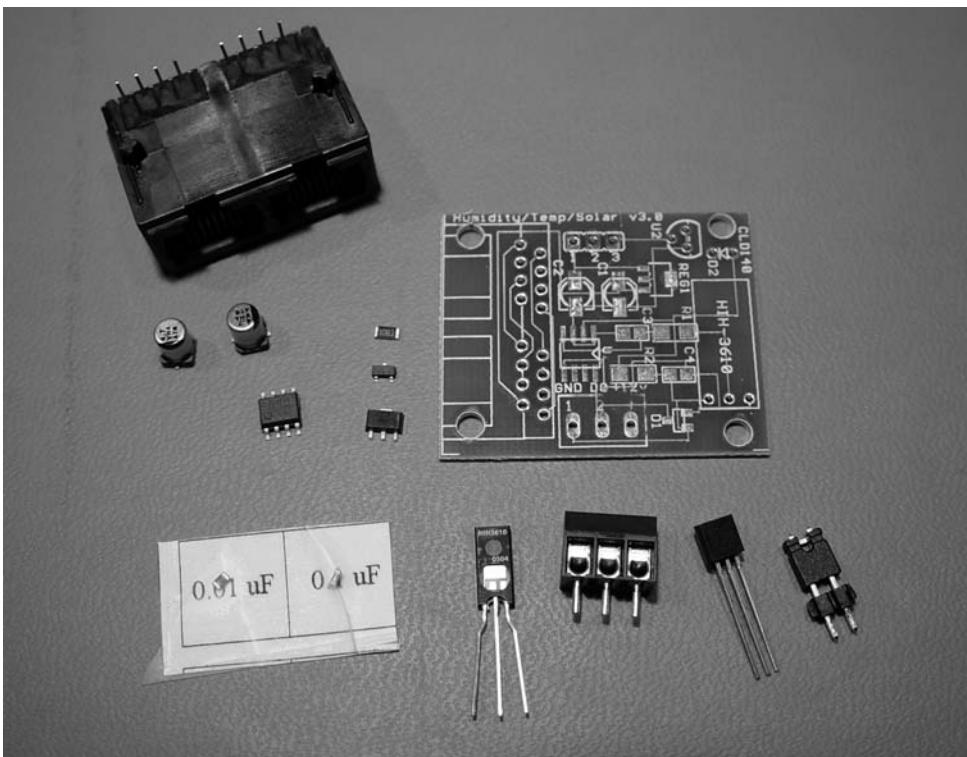

FIGURE 7-2: Hobby-Boards kit parts.
1. Make sure you have all the parts as shown in Figure 7-2.